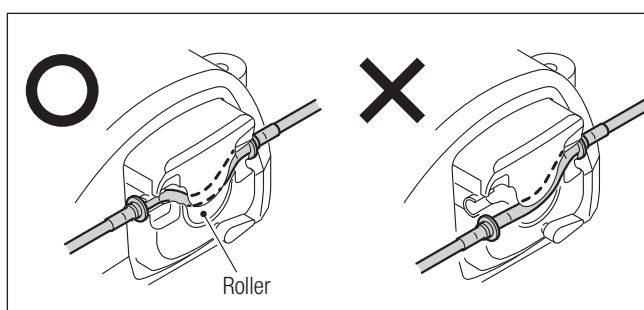

Fig.9
- 4) Make sure that the tube is inserted well behind the roller as shown in Fig. 9. If not, the tube may be damaged or cut when the Pump Cover is closed.